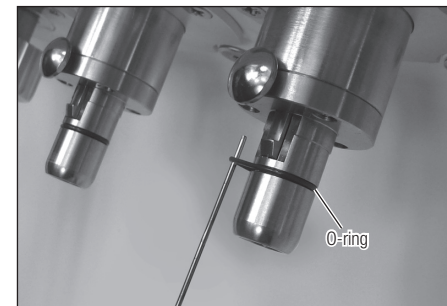

Fig. 29
- 1) Remove the O-ring using a thin needle (Fig. 29).